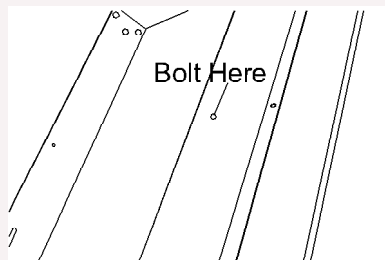

fig. 16
14. There are 4 x 6mm holes in the base runners that are clearly marked with an arrow. Using a 6mm twist drill, drill through the marked holes and right through the stair stringers. Use the 6mm machine screws and nylok nuts supplied to fix through these holes (figure 16).